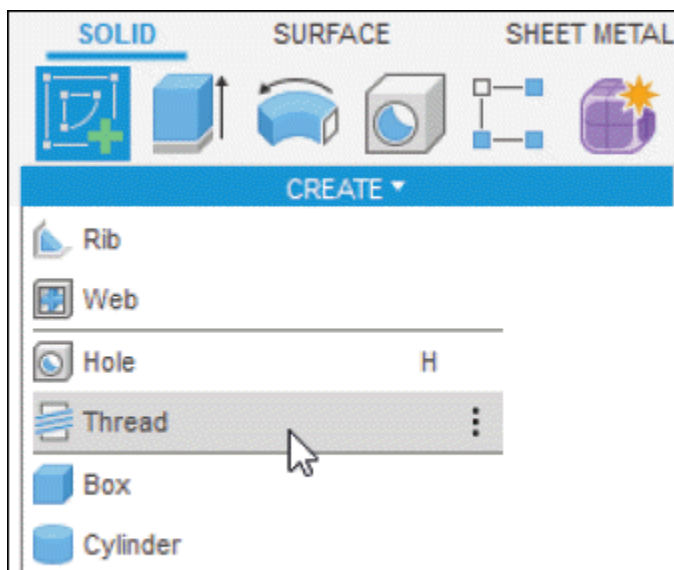
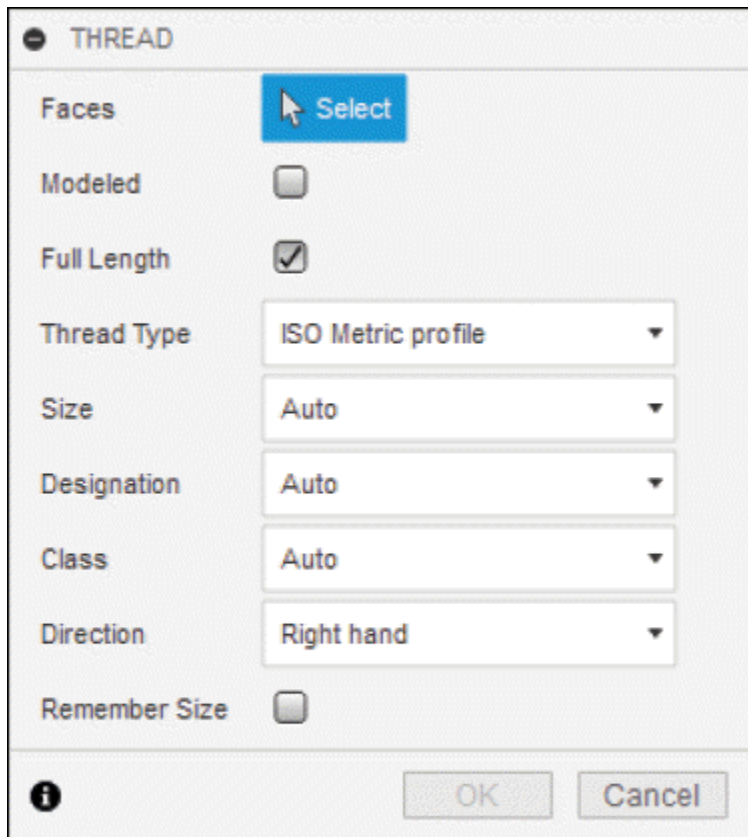

Figure-52. Thread tool
Figure-53. THREAD dialog box
- Click on the **Thread** tool from the **CREATE** drop-down in the **Toolbar**; refer to Figure-52. The **THREAD** dialog box will be displayed; refer to Figure-53.